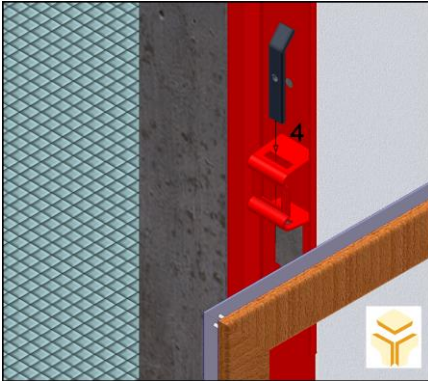

Fig. 2.1.1 - Installing spacing bar (4)
Before installing the frame, remove the ground-floor spacing bar. Insert the 8 fixing brackets (4). Lay the frame (5) leaning it against the inside wall. Check if the screw holes are aligned so that it is possible to merge sub - frame and frame together (figs. 2.1.1, 2.1.2).